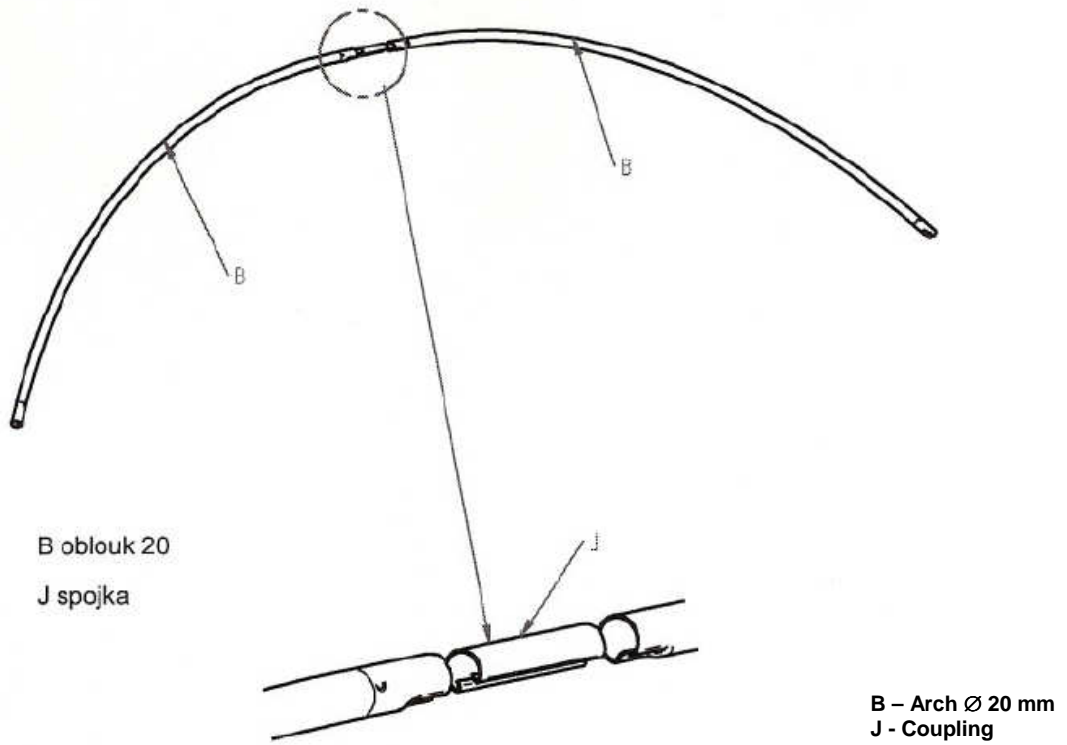

Fig. 5
Assembly the arch from its four tubular segments (B) of  $\varnothing$  20 mm by connecting them together by means of three aluminium couplings (J), see Fig. 5..